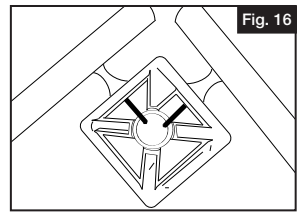

Fig. 16
1. Dry fit the two Handrail lineals. The Handrail lineals to be joined should extend far enough to allow for scribing and final cutting (Fig. 16).